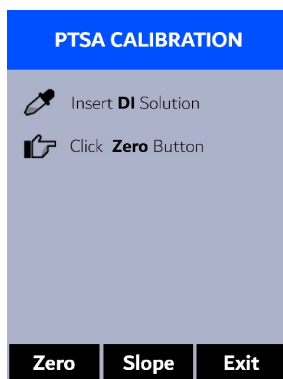

Figure 3.
4. Press **P-Cal** () to launch the **PTSA CALIBRATION** screen (Figure 3).